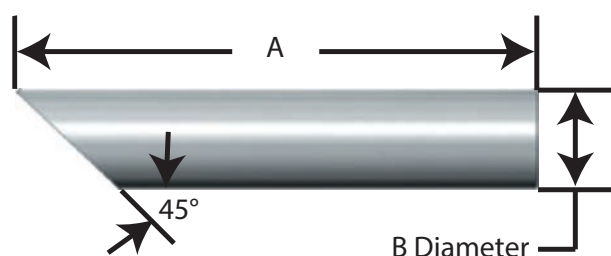

Figure 47: Drift Pins Specification
**Drift Pins** - Two drift pins are required for the removal of the disc (6) from the disc holder (8) (see Figure 47 and Table 27a).